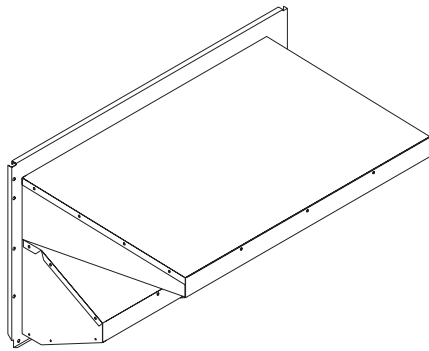

Fig. 6 — Completed Hood Assembly (Vertical EconoMiSer)
5. Slide the outdoor air inlet screens into the screen track on the hood side panels. While holding the screens in place, fasten the screen retainer to the hood using the screws provided. Repeat the process for the barometric exhaust air screen. *Do not attach completed (Fig. 6) hood assembly to unit at this time.*